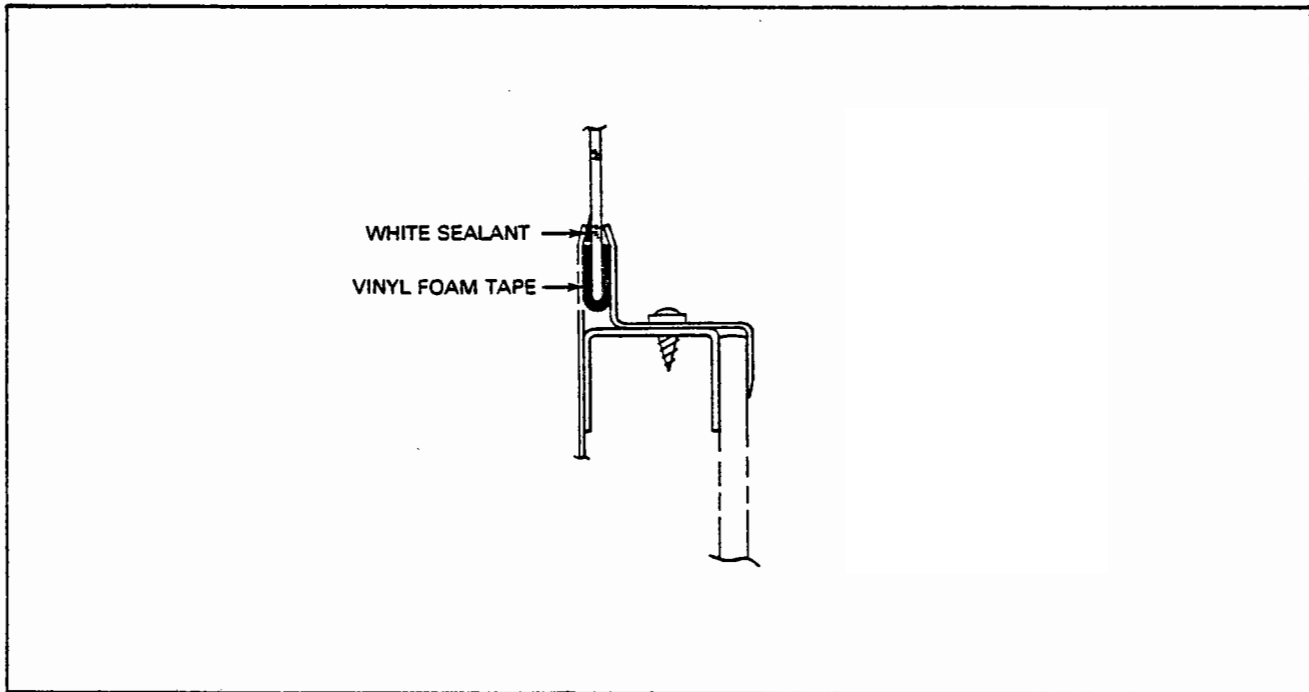

Figure 56-2. Side Window Installation, Single Pane (Typical)
1. Single Pane (Refer to Figure 56-2.)